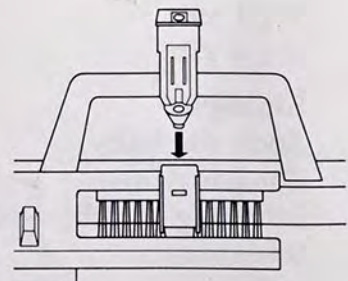

Fig. 5
5. Place feeding eyelet into its socket on lock, fig. 5.